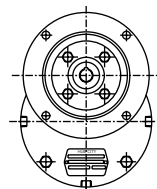

FIGURE HRM1 -
**OPERATING POSITIONS** — Normal speed reducer mounting positions are shown in Figures HRM1-HRM5. Because of varying requirements, mounting hardware is not supplied with these units, however foot mounting kits are available. Grade 5 or stronger cap screws should always be used. Base and fasteners for motor and reducers must be rigid enough to maintain alignment between reducer and motor, and between reducer and couplings. Input rotation of the speed reducer can be either clockwise or counterclockwise.